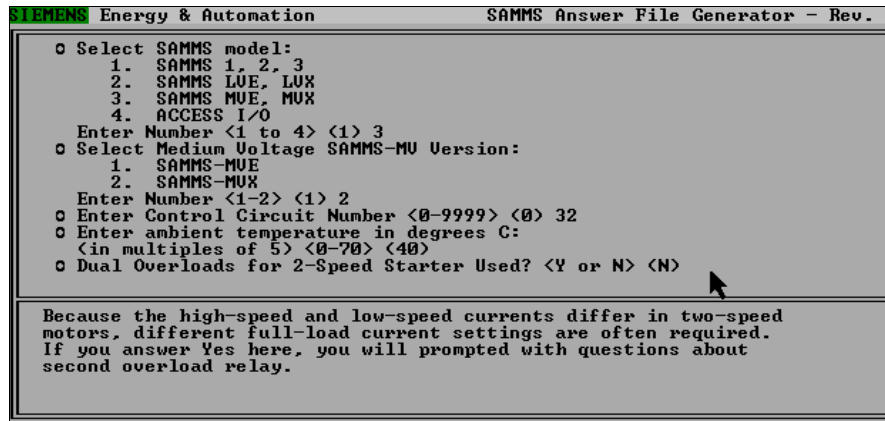

Figure 5.6 Answer Sheet for SAMMS Configuration
- An answer sheet appears. This sheet requests all relevant information about the SAMMS device including motor protection and control data. For each question, the range of answers as well as the default answers are shown between angular brackets (< >). Footnotes on the answer sheet provide helpful information for making choices. Refer to **Figure 5.6**.